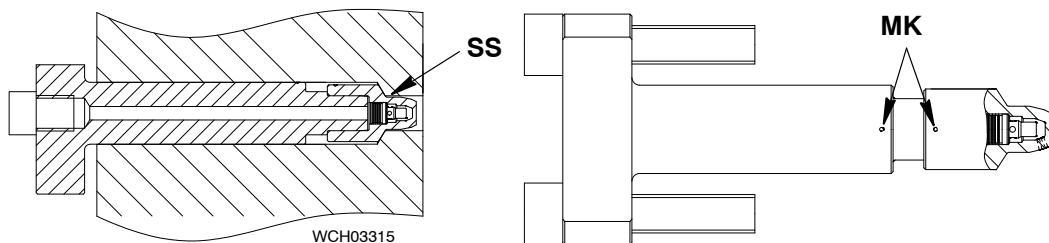

Fig. 3
- 1) Make sure that the sealing surfaces (SS, Fig. 3) are clean and have no damage.
- 2) Make sure that the marks (MK) are in line. If the marks are not in line, send the lubricating quill to Wärtsilä.